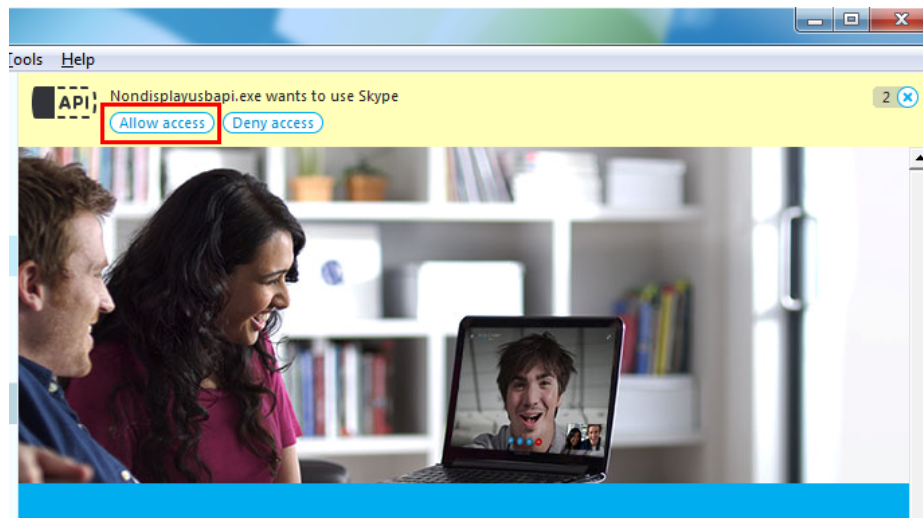

Figure 3-9: Allow API Access
Step 4: Launch Skype. Press the **Allow access** button on Skype (Figure 3-9) to allow handset API access.